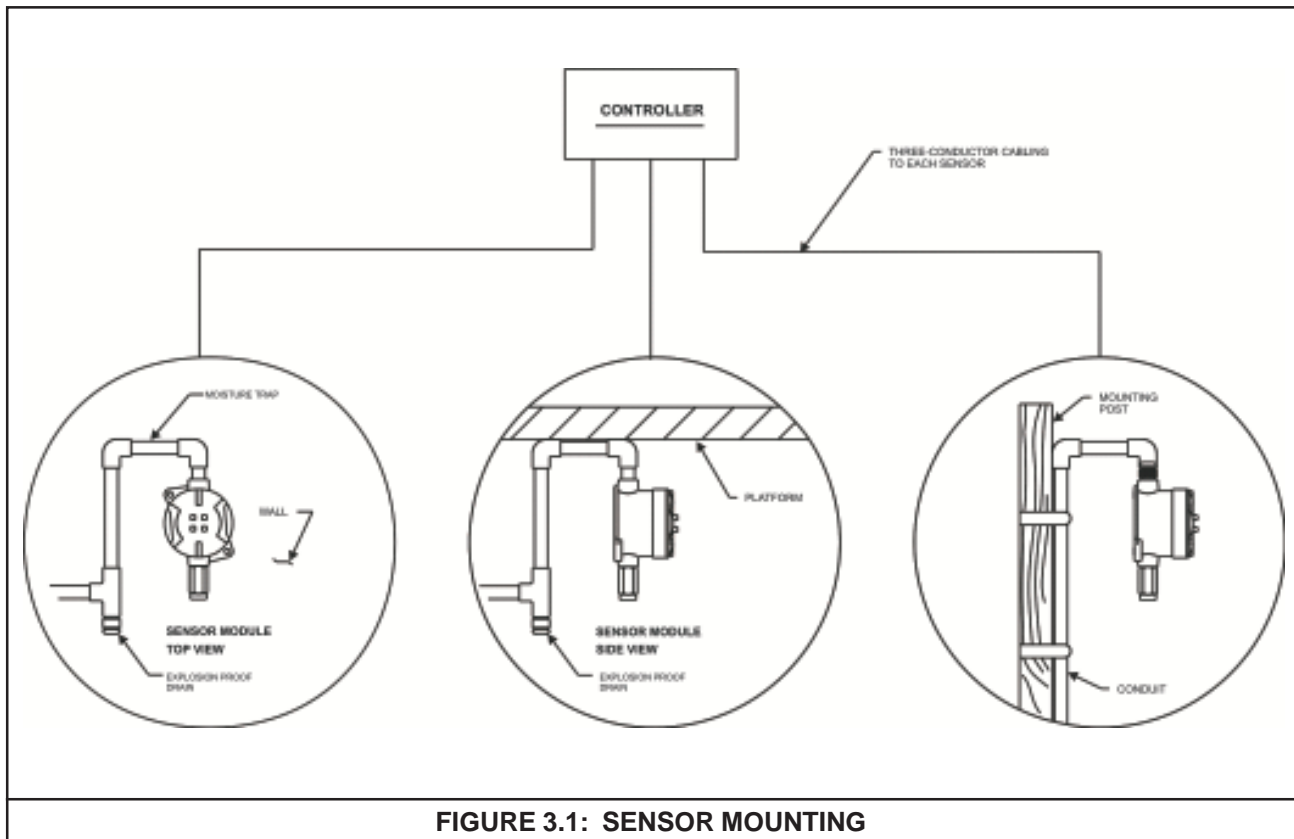

FIGURE 3.1: SENSOR MOUNTING
- Sensors must be pointed down and the conduit should include an inverse trap to reduce moisture (condensation) from accumulating in the electronics enclosure. See Figure 3.1.